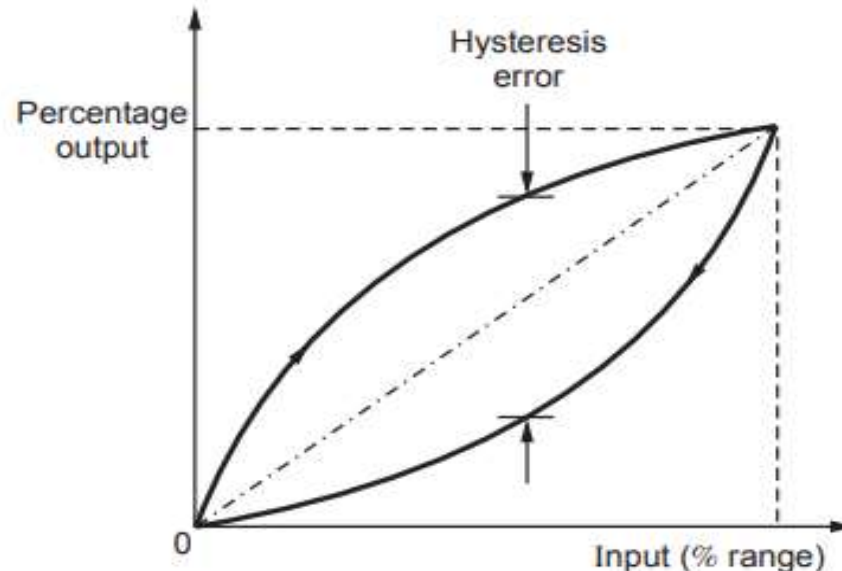

Fig. 1.2.7 Hysteresis error
- Hysteresis can be defined as the maximum difference in any part of output readings so obtained during any one calibration cycle. Fig. 1.2.7 shows hysteresis curve.